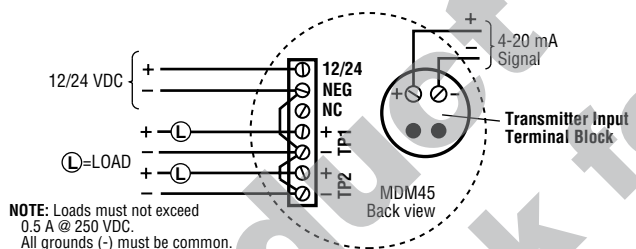

Figure 2: Separate Transmitter Power Source
6. Using shielded cable, connect the 4-20 mA input signal negative terminal (-) to the transmitter input positive terminal (+) of the MDM45. For separate transmitter power source (Fig. 2), connect the 4-20 mA input signal negative (-) to the transmitter input negative terminal (-).
4. Connect the 4-20 mA source to the transmitter input terminal as shown in Figure 2 below, left.